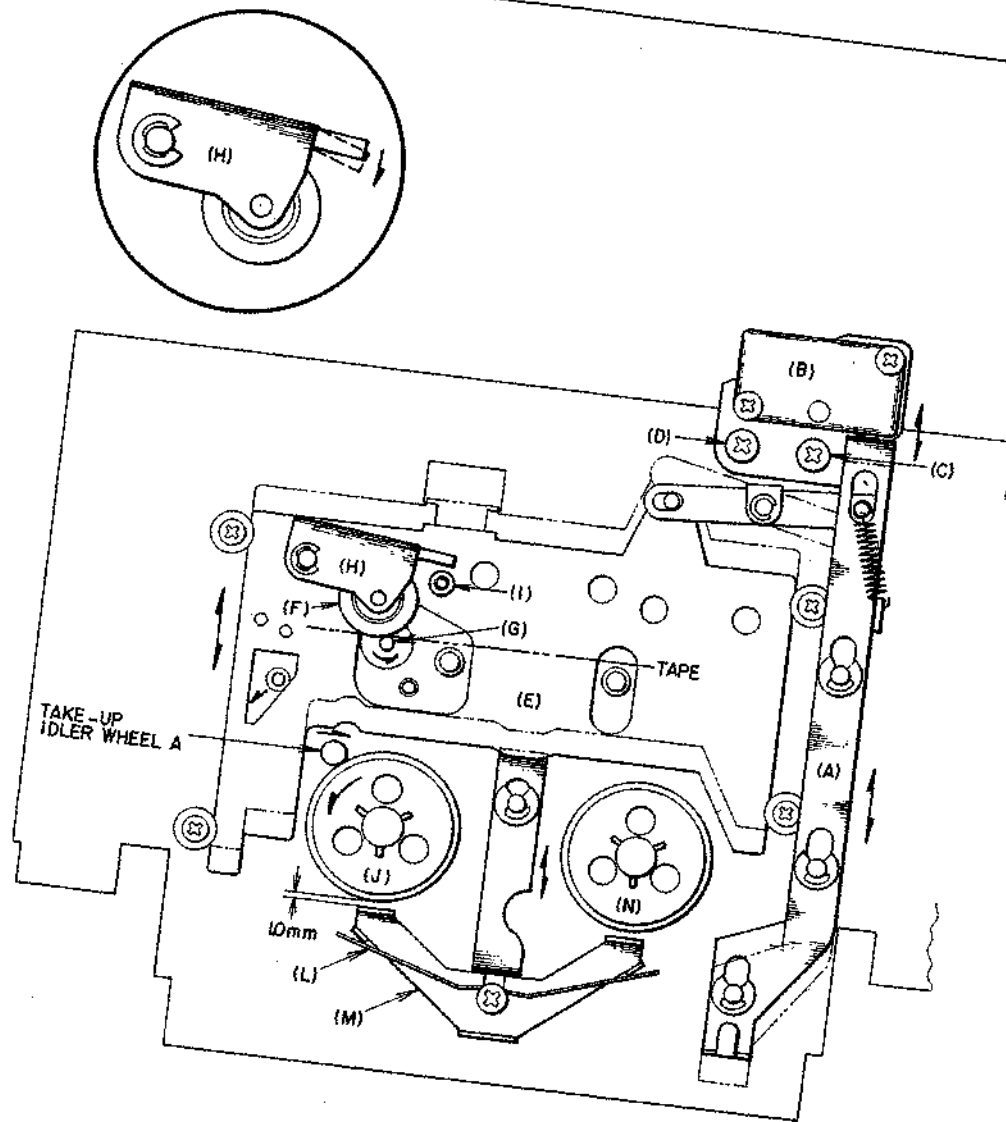

Fig. 12
(6) ADJUSTMENT OF RECORDING PROTECTION DEVICE (See Fig. 12)
(7) ADJUSTMENT OF PINCH WHEEL PRESSURE TIMING (See Fig. 12)
(8) PINCH WHEEL PRESSURE STRENGTH ADJUSTMENT (See Figs. 12 and 13)
(9) BRAKE ADJUSTMENT (See Figs. 12 and 14)